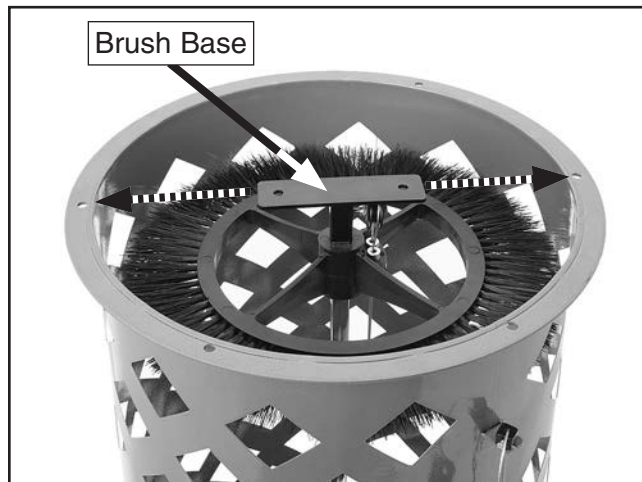

Figure 77. Filter brush base aligned with assembly fastener holes.
8. Before re-inserting the filter into the assembly, make sure that the filter brush base is aligned with two of the fastener holes around the base of the assembly (see **Figure 77**). This will allow the canister base to align with the fastener holes around the brush base.